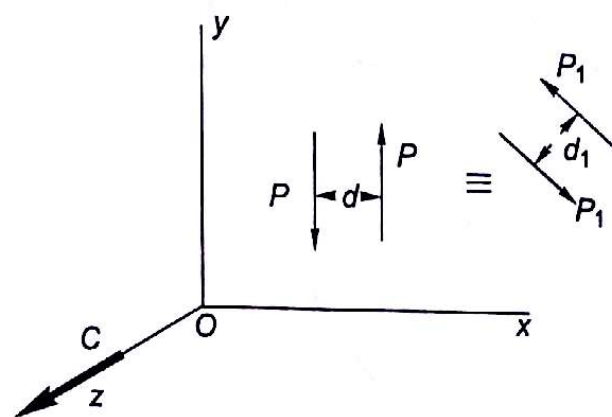

Fig. 2.3
- (c) *Effect of a couple is only a couple moment.* Couple is a free vector, therefore a couple can be changed in any manner so long as its moment remains the same i.e., (i) by changing the magnitude of force, (ii) by changing the arm of the couple, (iii) by changing the direction of forces (Fig. 2.3).